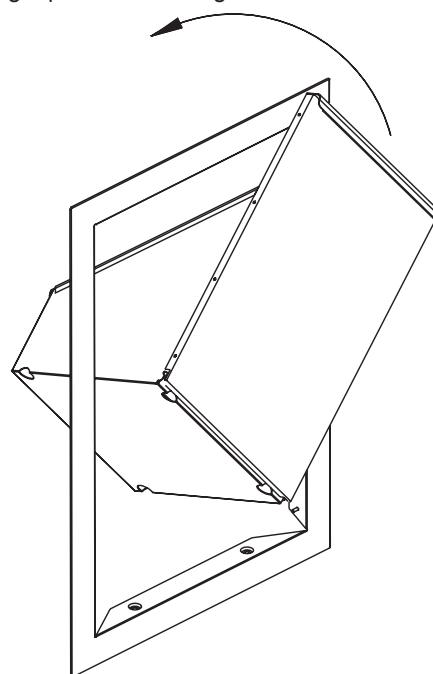

Figure 3
3. Once located inside the BBA Frame, rotate the BBA Door to the upright position. See Figure 3.